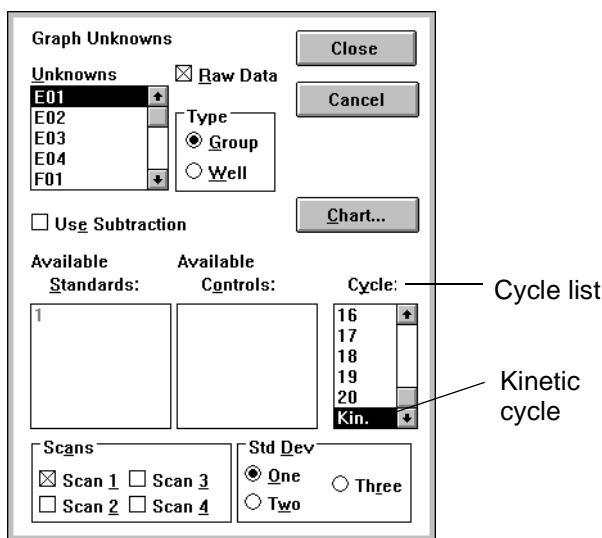

Figure 3-16 Graph Unknowns Dialog Box
The Graph Unknowns dialog box appears (Figure 3-16).
5. Select **Kin.** from the Cycle list (Figure 3-16).